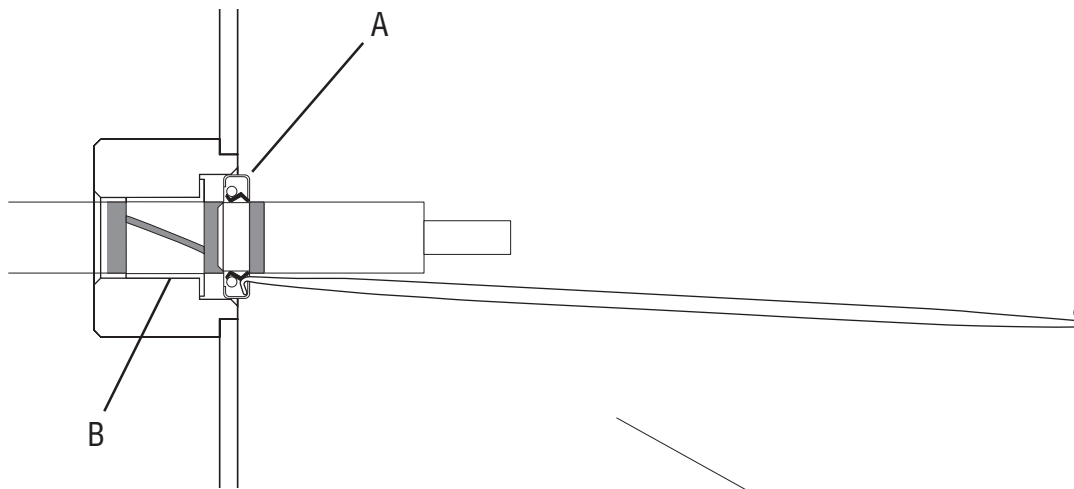

Fig. 1
3. From front of the dispenser, insert pick tool (Fig. 1 & 2) **into** auger shaft seal (A) (**NOT** between the seal and shaft) and pull forward rotating around auger shaft until removed and discard.
4. Repeat for auger shaft bushing (B) and discard.